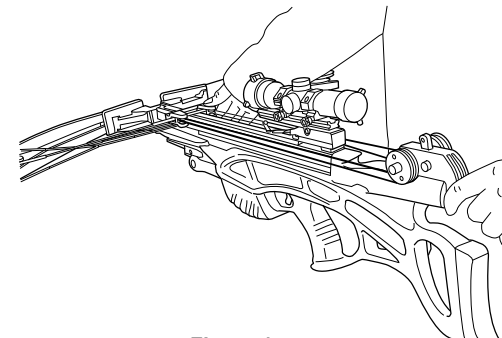

Figure 17
- ④.4 Disengage (pull) the pawl to release the rope guide. Extend the rope guide over the scope and attach to the crossbow string, centered on the barrel (See Figure 17).